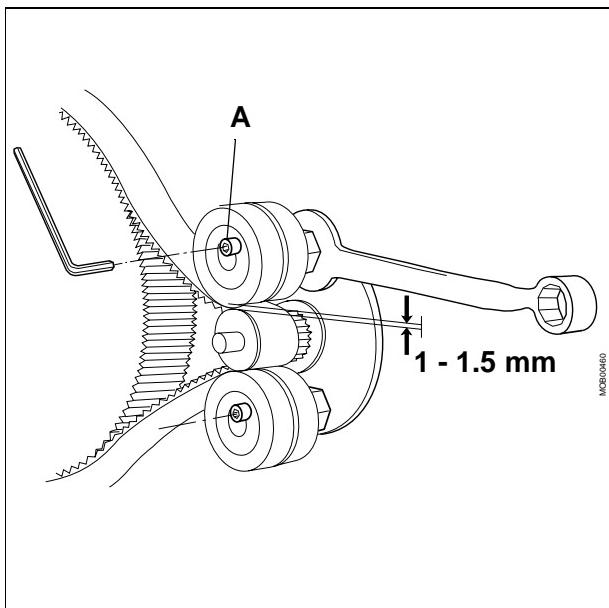
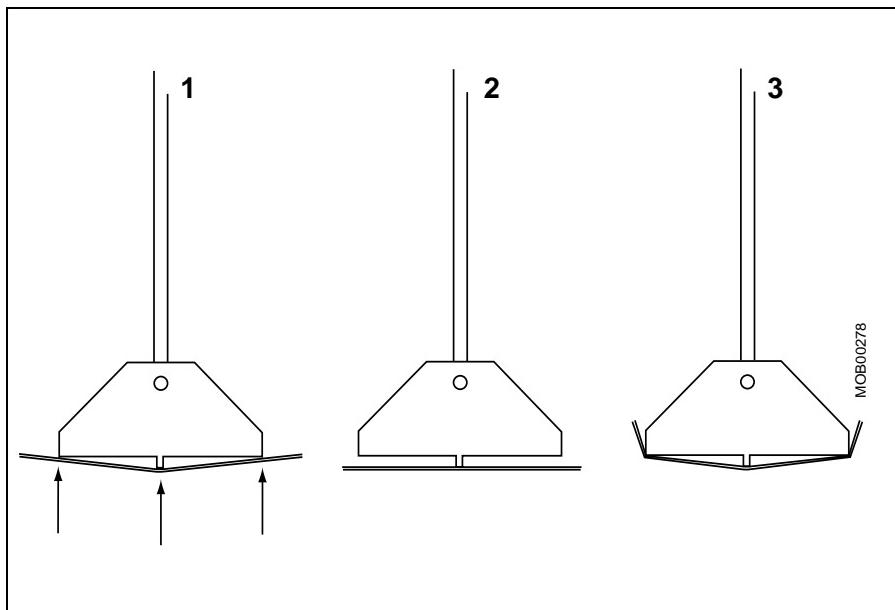

Fig. 4
Fig. 6
- Loosen the screws (**A**/Fig. 4). The tension of the transmission belt can then be adjusted with a 13 mm wrench.
- With the wrench, adjust the tension of the transmission belt equally on the two tension bearings to a minimum distance of 1-1.5 mm between the bearing and the washer (Fig. 4). The tension of the transmission belt is right when the adjustment device and the belt are in contact in exactly three points (1/Fig. 6). In (2/Fig. 6) the belt is too tight and in (3/Fig. 6) the belt is too slack.
- Tighten the screws (A/Fig. 4).